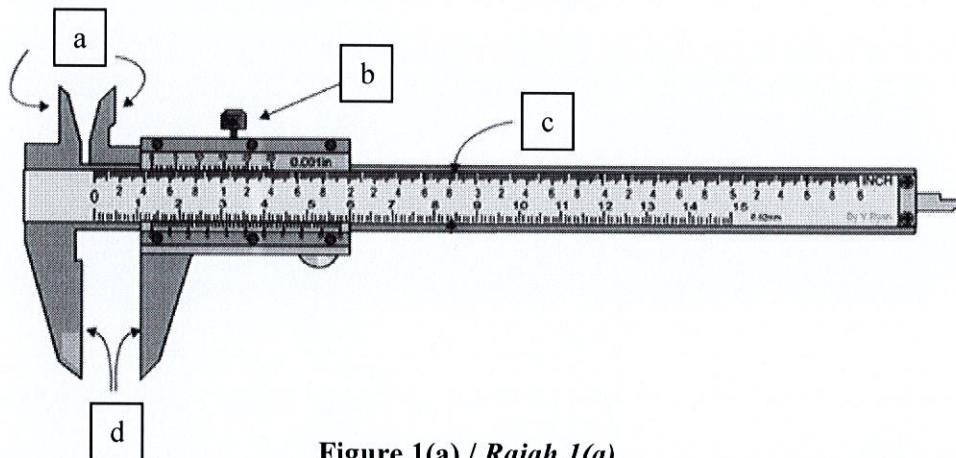

Figure 1(a) / Rajah 1(a)
- (a) Name the **FOUR (4)** parts of the vernier caliper as shown in **Figure 1(a).**
*Namakan **EMPAT (4)** bahagian angkup vernier seperti ditunjukkan dalam Rajah 1(a).*
- i. Write **SIX (6)** processes in **Figure 1(c)** that can be done on drilling machine.